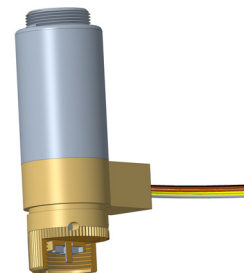

FIGURE 6-22
1. Check the actuator pin to ensure it is in the non-fired position by fully screwing in the reset tool supplied and ensuring the pin is retracted. See Figure 6-22.